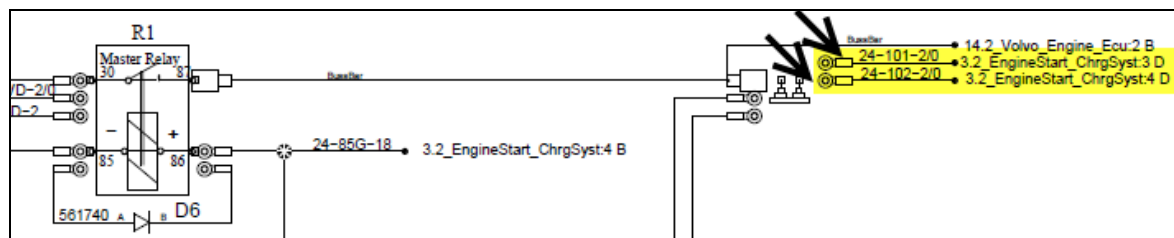

Figure 6
- In the electrical compartment, **connected to Bussman junction block** (Figure 6).